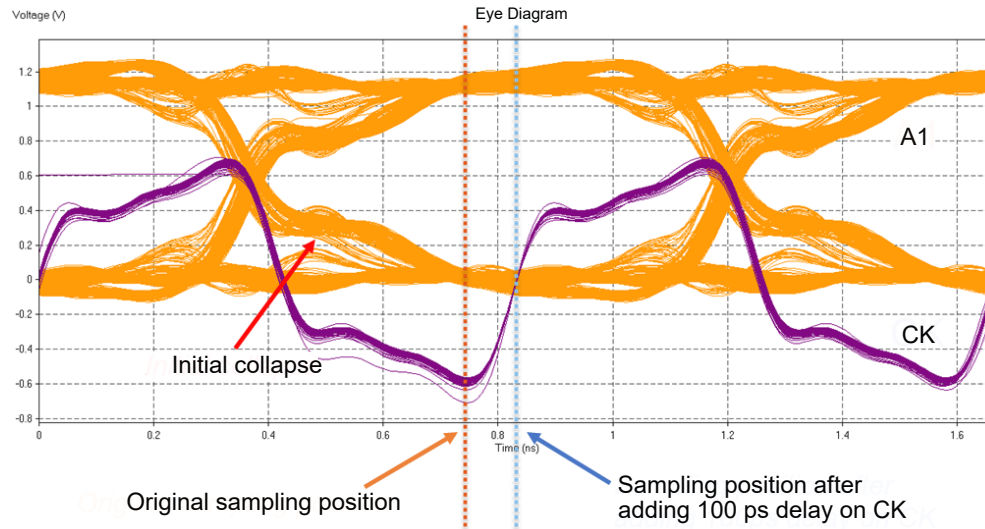

Figure 6. Initial eye collapse on address signals
2. A 2 pcs x 16 DRAM routed in T-topology is recommended to achieving a total 2 GB density. When using T-topology routing, it is recommended keeping the propagation delay of each branch less than 150 ps (about 900 mils in length), with no larger than 10 ps difference between the two branches. In this case, VTT termination can be eliminated to ease routing and save BOM costs. In addition, there is an initial collapse on the eye diagram of Addr/Cmd/Ctrl due to the absence of VTT termination. To make the sampling position still at the center of the eye opening, CK should be routed with propagation delay 100 ps larger than that of Addr/Cmd/Ctrl, see Figure 6.